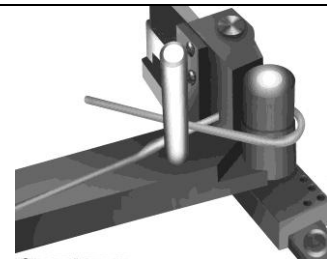

Figure 6
2. For Loops and coils, you must lift the material slightly on the third bend to allow it to rise above the already bent material as shown in figure 6.